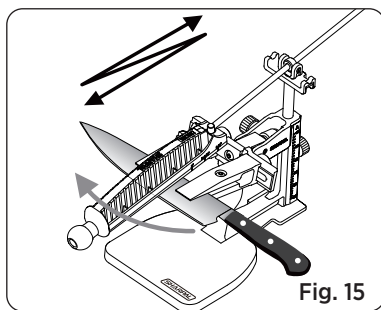

Fig. 15
2. Apply light pressure with long, smooth strokes, start at the heel of the blade. Slide the abrasive plate back and forth along the cutting edge towards the tip. Stop at the tip of the blade (See Fig. 15).